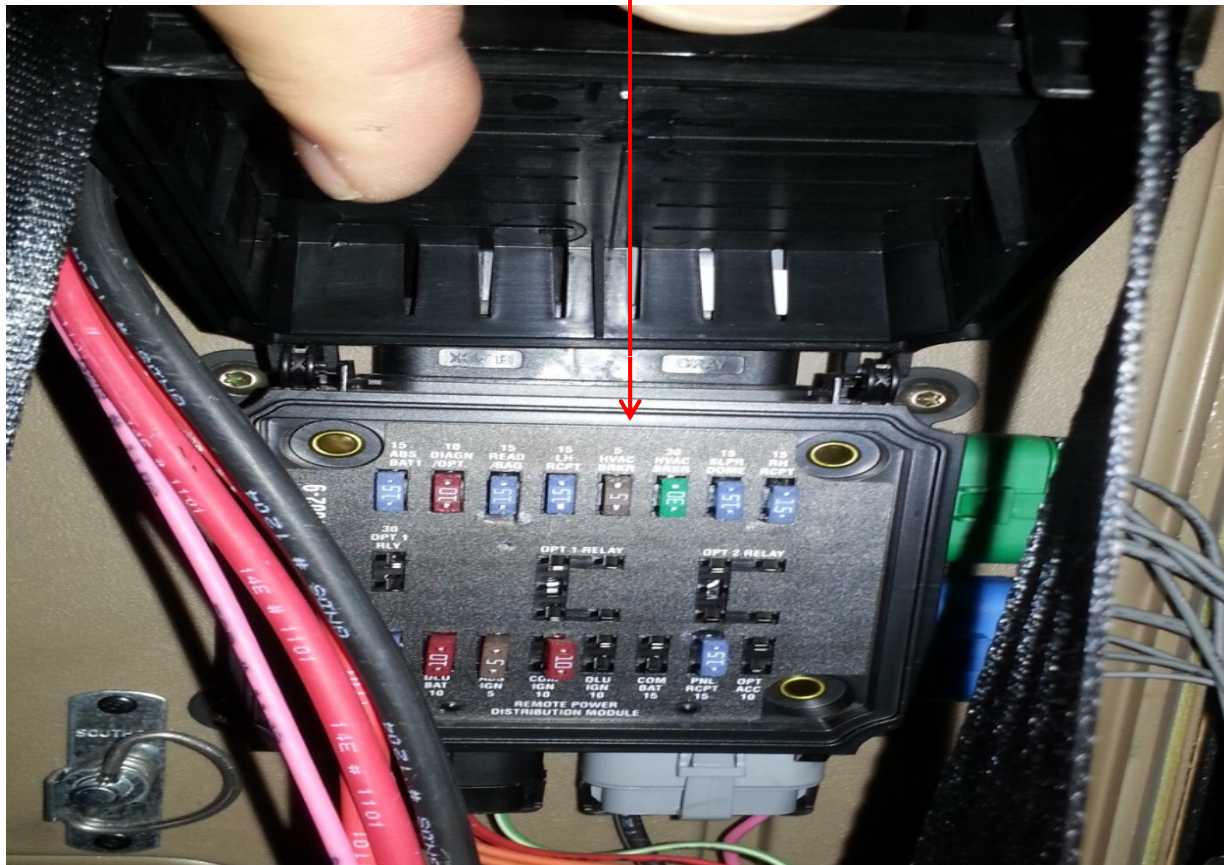

Figure 3
7. Insert fuses in panel for power "10 AMP", and ignition "5 AMP" fuses refer to "Figure 3".